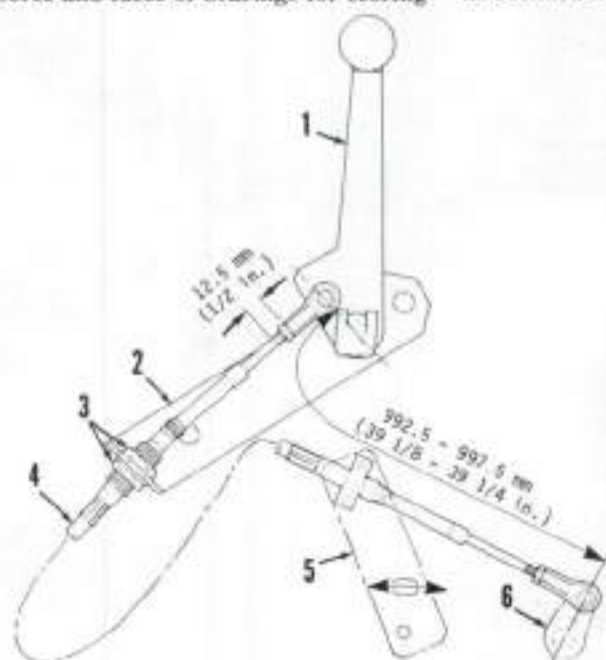

Fig. 256—View of draft control lever adjustment points on Model 1594.
321. DRAFT SENSING LEVER ADJUSTMENT. Draft control lever adjustment can only be done accurately with control cable removed. Adjust ball joint at control lever end to 12.5 mm (1/2 inch) dimension as shown in Fig. 256. Adjust ball joint at other end of cable so overall length of cable is 992.5-997.5 mm (39 3/4 to 39 1/4 inches) between centers of ball joints. Install cable assembly in cable brackets. Threads of cable housing should be centered in upper bracket (2).